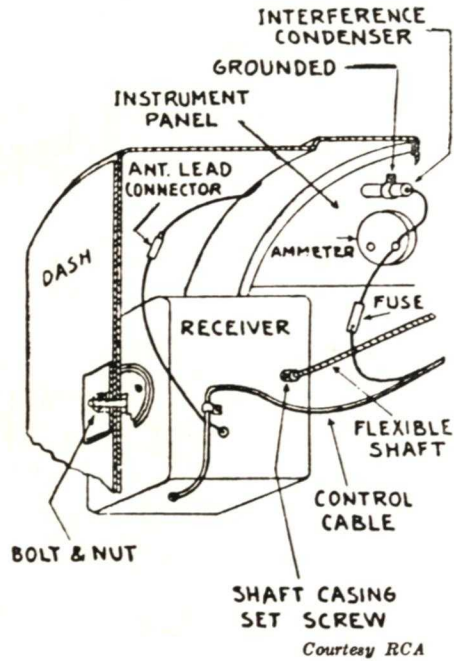

FIG. 15. Typical mounting and connecting diagrams, such as you can expect to be with a new auto set.
Once the controls are mounted, you are ready to connect the radio. You will have the "hot" A lead, antenna connection, control head cables, and possibly speaker connections, to make. Usually a picture like Fig. 15 or 16 will be included in the installation instructions, so there is little chance for error in making the connections if you follow the instructions carefully.
► Installing bypass condensers is the first step to take. A bypass condenser should be installed at the point where the receiver A lead connects to the ammeter. Typical installations are shown in Figs. 15 and 20.